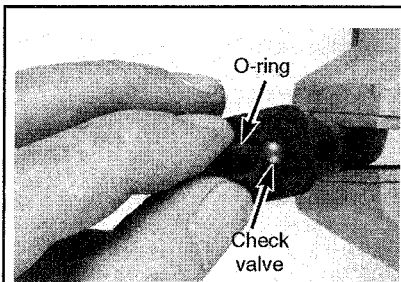

Fig. 15 When used, make sure the quick-connector O-ring and check valve are in good condition
- ◆ See Figures 15, 16, 17 and 18